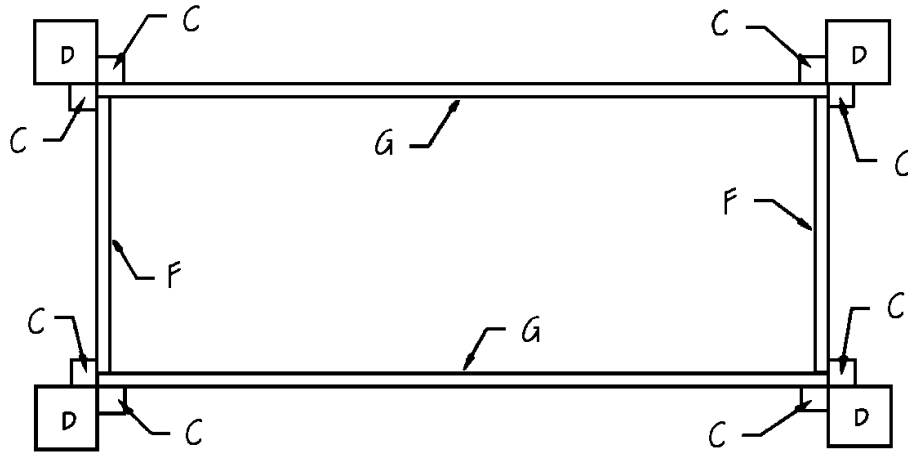

Figure 6
6. Place the Shelf (H) over the Long and Short Braces (F and G). Apply glue to the meeting surfaces, and nail through the Shelf (H) into the Short and Long Braces (F and G), using 1-1/4" finish nails spaced about every 5 inches.
7. The assembled shelf will be installed with the bar frame lying down and the Front (B) facing the work surface. Place the assembled shelf inside the four corners formed by the Supports (C), as shown in *Figure 6*. (Shelf not included in figure to better show braces.) Screw through the face of the Long and Short Braces (F and G) into the two Supports (C) in each corner, using 2-inch wood screws.